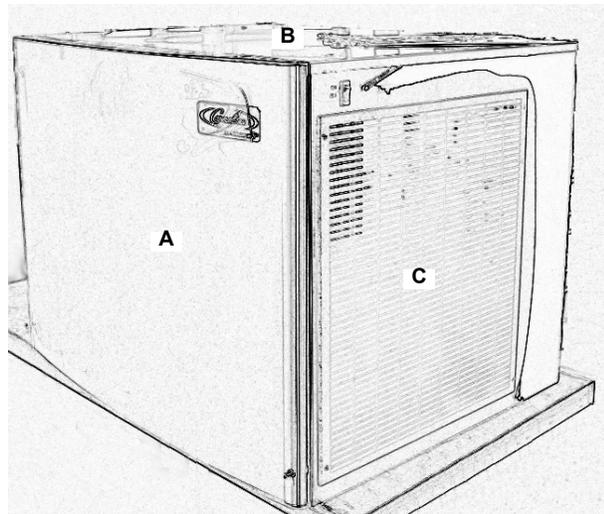

Figure 7.
2. Remove the front panel cover (A) top cover (B) and louvered side panel (C) (Figure 7).